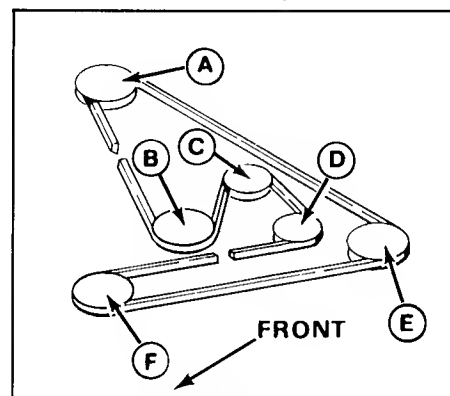

Figure 26. Belt Pattern
6. Install the new belt on the pulleys. The belt pattern is shown in figure 26. Notice that the "V" side of belt drive the V-pulleys and flat side of belt rides on the flat idler pulleys. Be sure there are not twists in the belt.